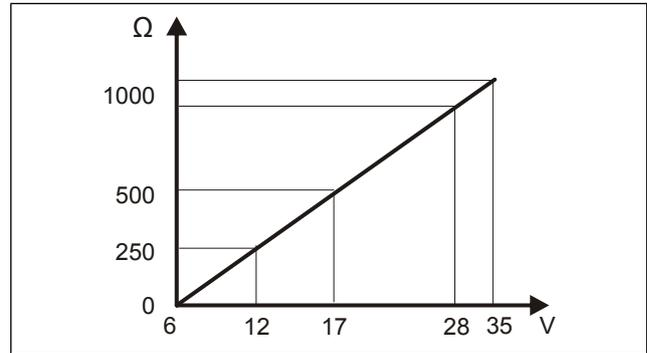
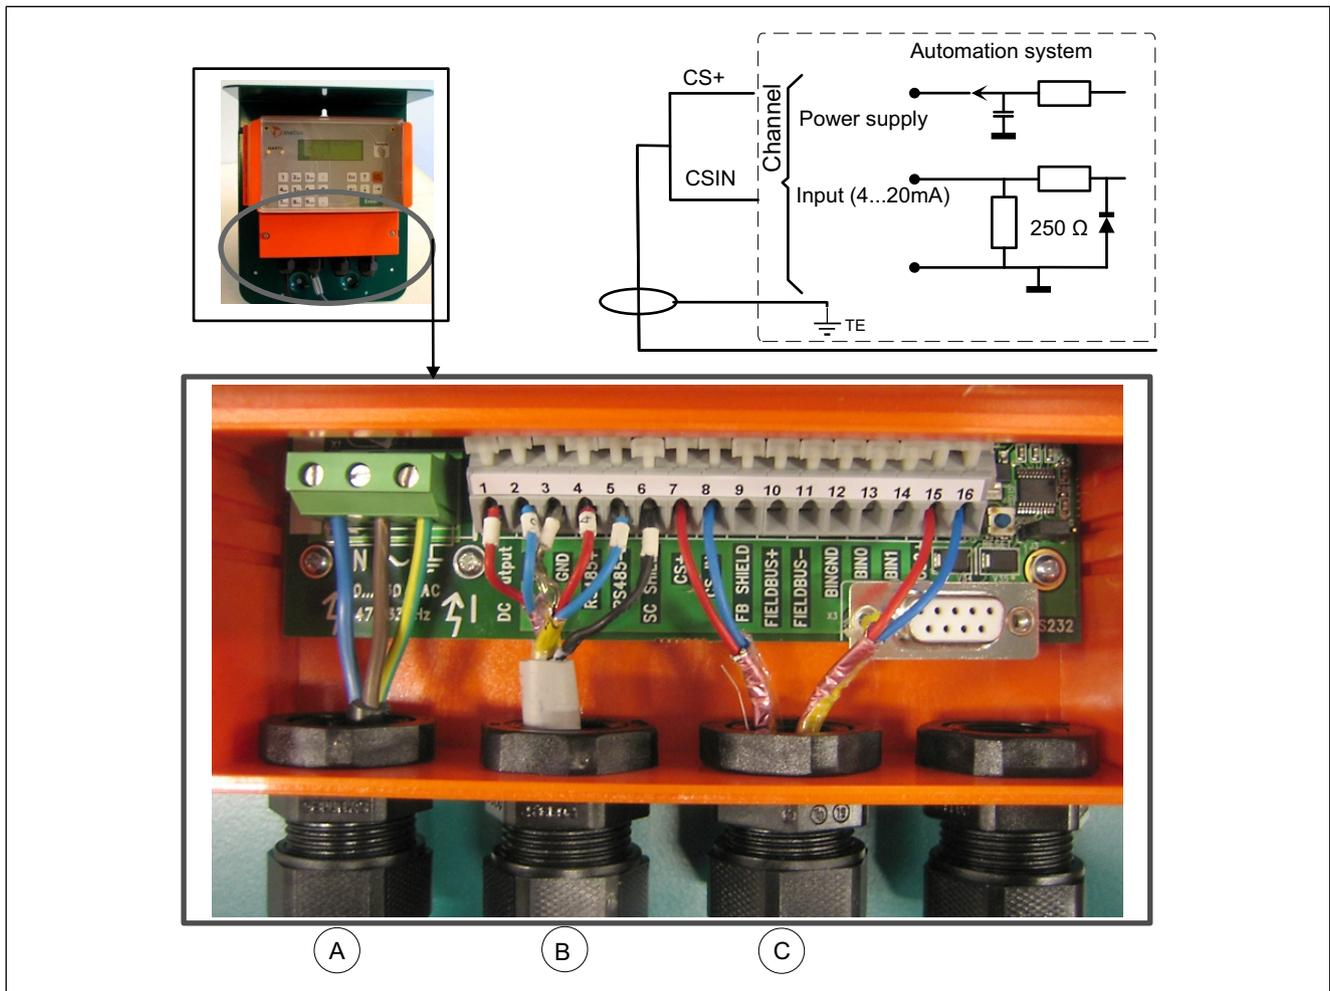

Fig. 7. Current output load capacity of the TCU.
Fig. 8. Connections of TCU, BD model. A. power, B. transmitter, C. analog signal 4-20 mA.
3. Insert the output signal cable into the TCU connector casing through the inlet and connect it to the terminal block as shown in the drawing. For voltage and resistance see Fig. 7.
The transmitter contains a passive current supply that requires an external current source. Fig. 7 shows the load capacity of the current output as a function of supply voltage. Resistance here is the sum of load resistor, cable resistance, and power source resistance in the current loop. HART communication requires a minimum loop resistance of 250 Ohms.
1. Insert the power supply cable 90-260 VAC: Fig. 8, point A.
3. Insert the output signal cable into the TCU connector casing through the inlet (Fig. 8, point C) and connect it to the terminal block as shown in the drawing. For voltage and resistance see Fig. 7.